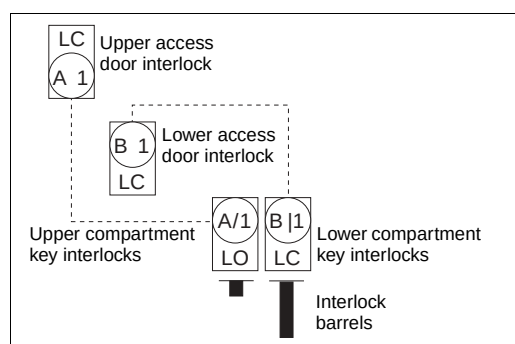

Figure 14: Interlock Status (Step 2.b.)
- b. If device is racked into a lower circuit breaker compartment, lock closed (LC) the right circuit breaker compartment key interlock to extend the right interlock barrel (see Figure 14) and release the interlock key.